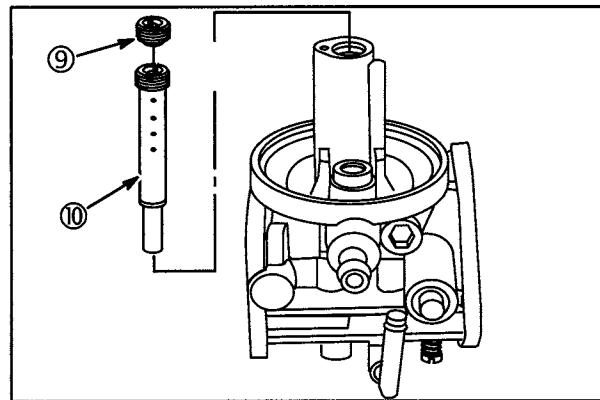

Fig. 45
4. Remove emulsion tube (10), **Fig. 45**.
**NOTE:** If carburetor is equipped with solenoid, remove solenoid seat (9) first, then remove emulsion tube.